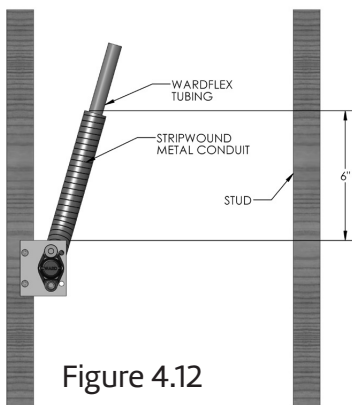

Figure 4.12
- B. Stripwound conduit shall also be used to shield tubing from puncture threats when WARDFlex is installed in a concealed location where it cannot be displaced a minimum 3" from a potential puncture threat or the distance between supports is less than 24 inches. See Figure 4.12.